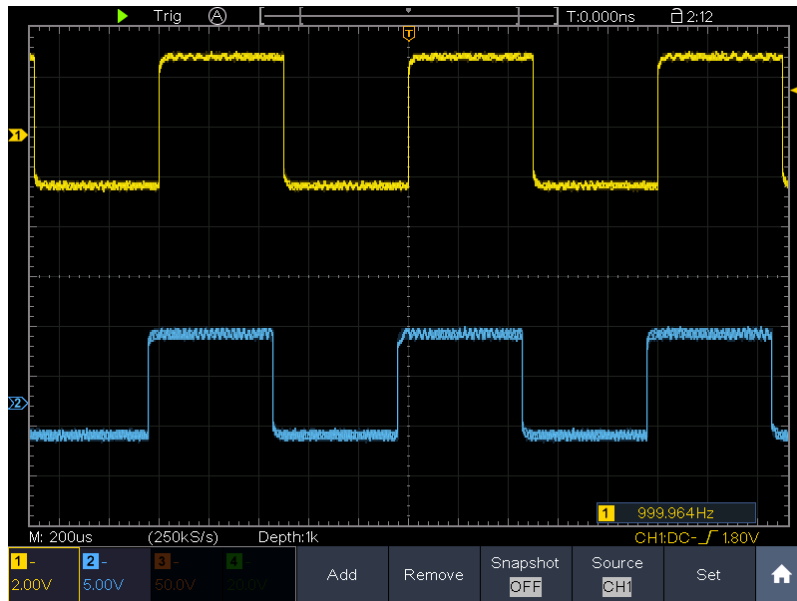

Figure 8-2 Waveform of Gain Measurement
- (1) Push the **Autoset** button and the oscilloscope will automatically adjust the waveforms of the two channels into the proper display state.
- (2) Push the **Measure** button to show the Measure menu.
- (3) Select **Add** in the bottom menu.
- (4) In the left Type menu, turn the **M** knob to select **PK-PK**.
- (5) In the right menu, select **CH1** in the **Source** menu item.
- (6) In the right menu, select **Add**. The peak-to-peak type of CH1 is added.
- (7) In the left Type menu, turn the **M** knob to select **PK-PK**.
- (8) In the right menu, select **CH2** in the **Source** menu item.
- (9) In the right menu, select **Add**. The peak-to-peak type of CH2 is added.
- (10) Read the peak-to-peak voltages of Channel 1 and Channel 2 from the bottom left of the screen (see Figure 8-2).
(11) Calculate the amplifier gain with the following formulas.